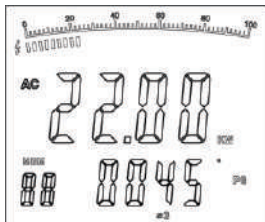

Figure 11
3. After recording the current power measurement value of the second phase, then press **SEL** again to choose P_3 . The double display shows the value of active power KW and PG of the third phase, as in figure 11.